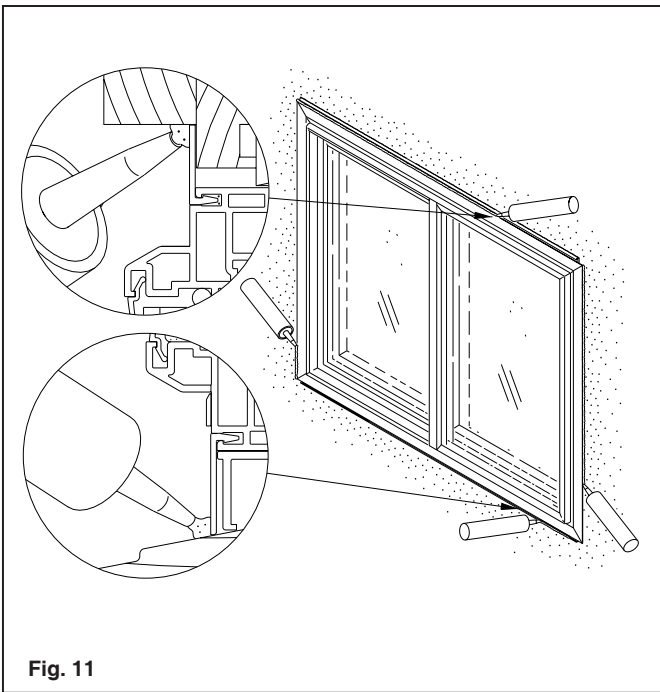

Fig. 11
B. Use a recommended sealant for the type of job and materials being used to apply a continuous bead of sealant around the outer edge of the trim you just installed. See **Fig. 11**.